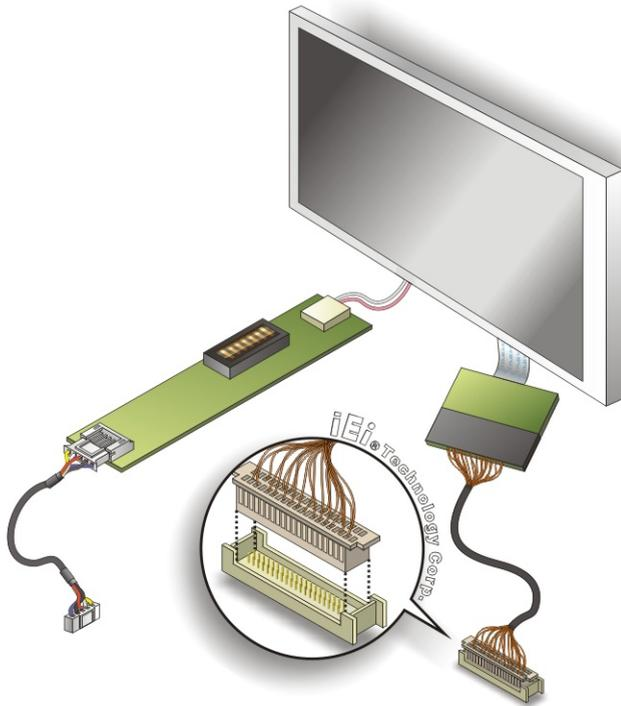

Figure 5-12: TTL/LVDS Connector
Step 2: Insert the cable connector. Insert the connector from the TTL/LVDS PCB driving board to the TTL/LVDS connector as shown in **Figure 5-12**. When connecting the connectors make sure the pins are properly aligned.